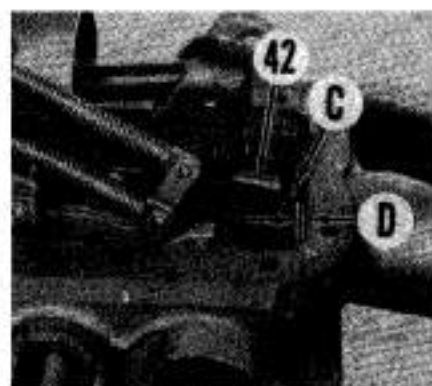

Fig. 218—Adjust draft control rod (42) so clearance (D) between cap screw (C) and lift cover casting is 5.84 mm (0.230 inch).
**219. DRAFT CONTROL ROD.** To adjust draft control rod (42—Fig. 218), move draft control lever to fully "UP" position. Be sure draft control rod is contacting master control spring plunger, then adjust control rod cap screw (C) until clearance (D) between head of screw